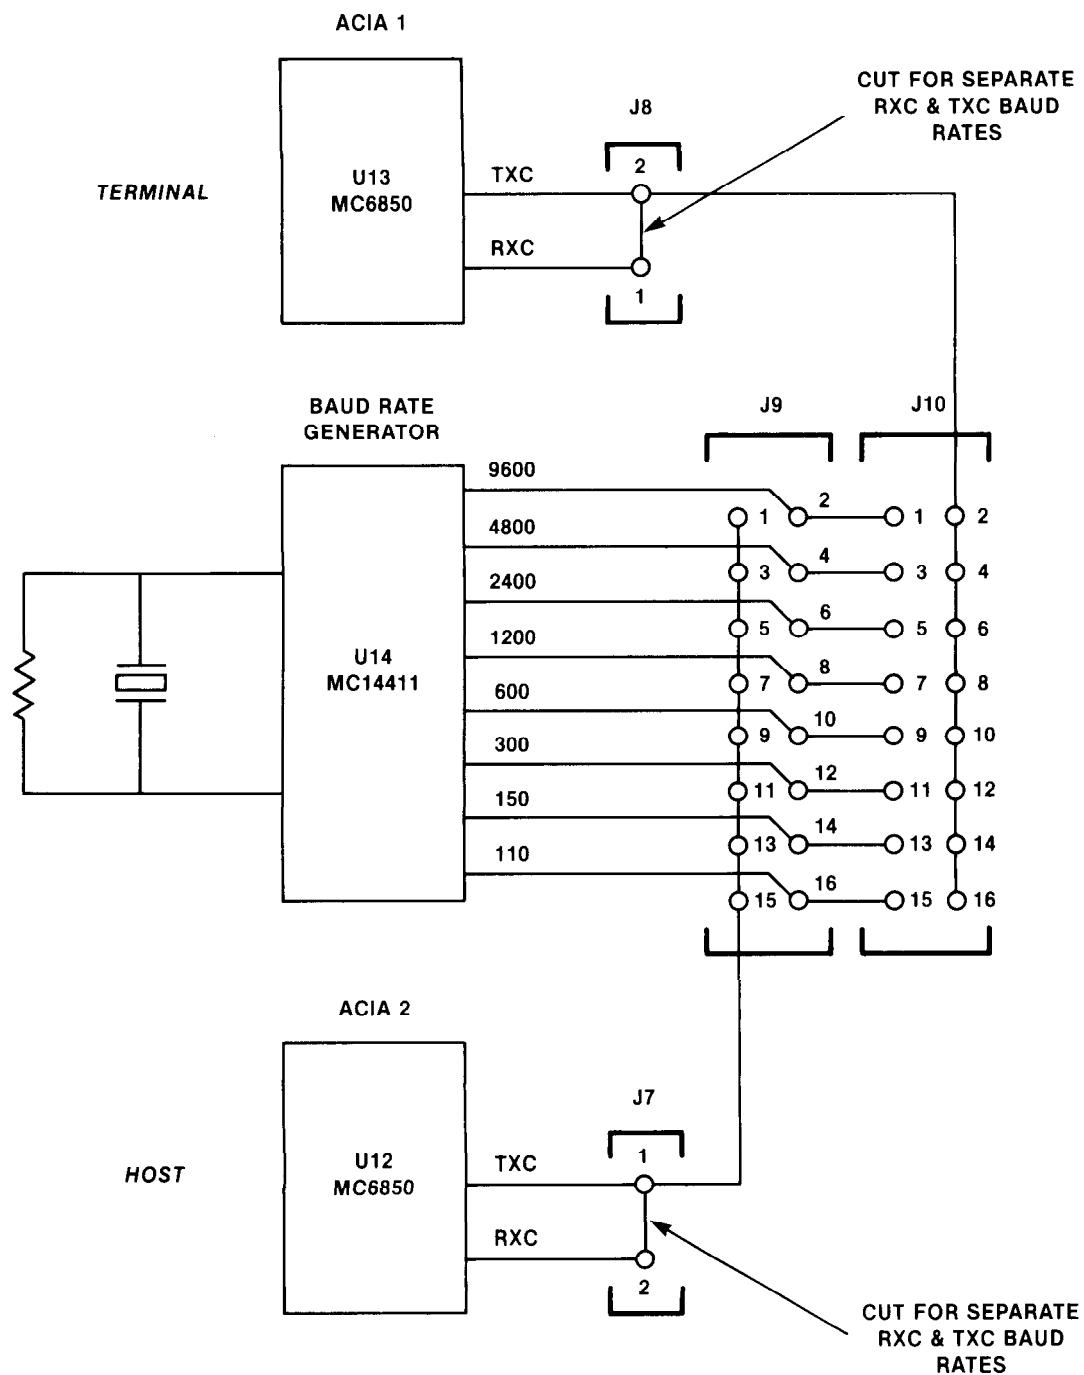

FIGURE 2-4. Interconnection Diagram for Baud Rate Selection
2.2.4.1 Normal Operation – Transmitting and Receiving at the Same Baud Rate. Normally, the terminal transmits and receives at the same baud rate. Although the terminal Port 1 can be configured to transmit and receive at different rates, the board as supplied uses a single common baud rate for the port. The host interface Port 2 has similar attributes. The interconnection circuit is shown in Figure 2-4.
2.2.4.2 Special Operation - Transmitting and Receiving at Different Baud Rates. The MEX68KECB is wired with the transmit clock (TXC) and Receive clock (RXC) of each ACIA (refer to Figure 2-4) tied together and then jumpered to the selected baud rate. To provide different baud rates, the connection between TXC and RXC must be cut and individual baud rates connected to each. Perform the following steps to select separate transmit and receive baud rates for the terminal:
2.5.2.1 Selecting Host Baud Rate. As with the terminal baud rate, the host serial port is wired to transmit and receive at the same baud rate. The desired baud rate is selected via a plastic cap jumper positioned on header J9, as shown in Figure 2-12. Also reference Figure 2-4 for the interconnection diagram and Table 2-1 for the selected baud rate.